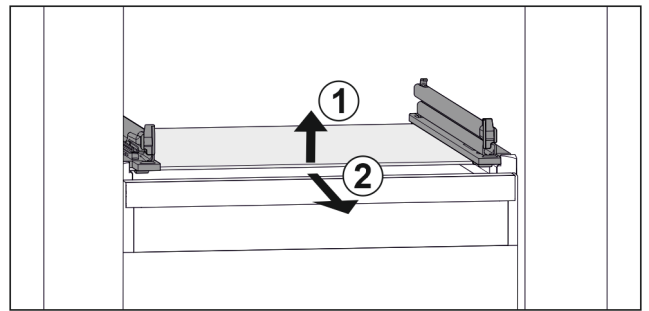

Fig. 109 Example illustration of glass shelf
- ▶ Lift glass shelf at the front. Fig. 109 (1)
- ▶ Take out glass shelf to the front. Fig. 109 (2)